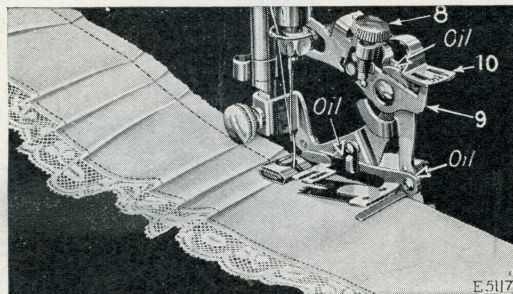

Fig. 39
The ruffler can be adjusted for group plaiting by lifting the adjusting lever (10, Fig. 39) and placing
it on top of the projection (9, Fig. 39) at the point indicated by the star on the adjusting lever. This should be done at the points where you wish to make the space between the plaits. The ruffler will then stop and plain stitching will be made. When the desired space has been made, adjust the lever (10) so that the projection (9) enters the slot marked "5". By alternately making groups of plaits and plain spaces, as shown in Fig. 39, very attractive work can be produced.
Occasionally apply a drop of oil to the working parts of the ruffler at each of the places indicated by arrows in Fig. 39. After oiling, operate the ruffler on a waste piece of material to prevent the oil soiling the work. If the ruffler does not plait evenly, a drop of oil may remedy the trouble.